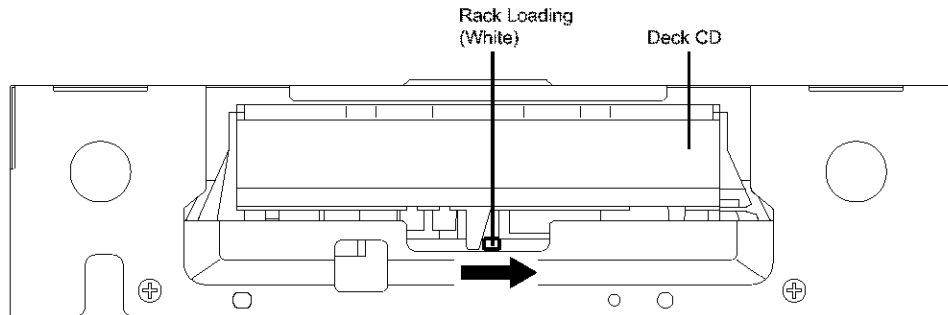

Fig. 1
1. Remove the Back Cabinet and AV PCB/DVD Block. (Refer to item 1 of the DISASSEMBLY INSTRUCTIONS.)
2. Slide the Rack Loading (White) toward the arrow direction by using a minus driver to release the lock. (Refer to Fig. 1)